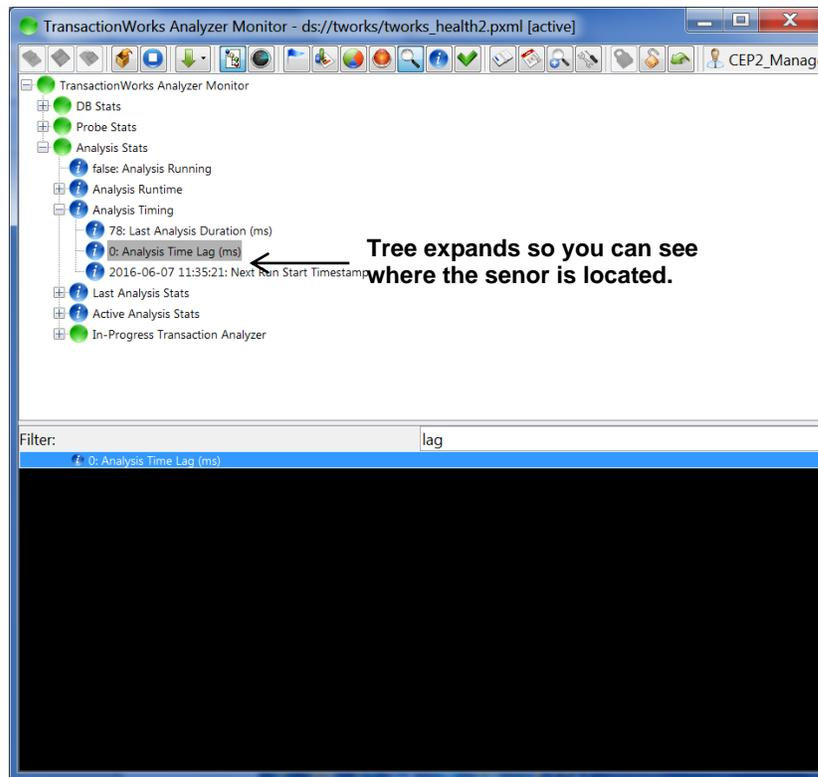

Figure 4-61D. Expanded Tree
- In this example, we searched for a sensor with **lag** in its name. The result was the **Analysis Time Lag (ms)** sensor. Click **Analysis Time Lag (ms)** to expand the tree in the top pane to see where sensor is located (Figure 4-61D).